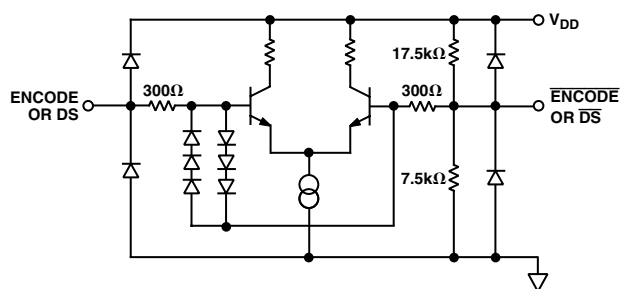

Figure 5. Equivalent ENCODE and Data Select Input Circuit
¹Gain error and gain temperature coefficient are based on the ADC only (with a fixed 2.5 V external reference).²3 dB bandwidth with full-power input signal.³t_V and t_{PD} are measured from the threshold crossing of the ENCODE input to valid TTL levels of the digital outputs. The output ac load during test is 5 pF (Refer to equivalent circuits Figures 5 and 6).⁴I_{IH} and I_{IL} are valid for differential input voltages of less than 1.5 V. At higher differential voltages, the input current will increase to a maximum of 1.5 mA.⁵Power dissipation is measured under the following conditions: analog input is -1 dBFS at 19.7 MHz.⁶Typical thermal impedance for the ST-44 (LQFP) 44-lead package (in still air): $\theta_{JC} = 20^{\circ}\text{C/W}$, $\theta_{CA} = 35^{\circ}\text{C/W}$, $\theta_{JA} = 55^{\circ}\text{C/W}$.⁷A change in input offset voltage with respect to a change in V_{DD}.⁸SNR/harmonics based on an analog input voltage of -1.0 dBFS referenced to a 1.024 V full-scale input range.
ENCODE and Data Select (DS) can be driven differentially or single-ended. For single-ended operation, the complement inputs ($\overline{\text{ENCODE}}$, $\overline{\text{DS}}$) are internally biased to $V_{DD}/3$ (~1.5 V) by a high impedance on-chip resistor divider (Figure 5), but they may be externally driven to establish an alternate threshold if desired. A 0.1 μF decoupling capacitor to ground is sufficient to maintain a threshold appropriate for TTL or CMOS logic.
Note the 6-diode clock input protection circuitry in Figure 5. This limits the differential input voltage to $\sim \pm 2.1$ V. When the diodes turn on, current is limited by the 300 Ω series resistor. Exceeding 2.1 V across the differential inputs will have no impact on the performance of the converter, but be aware of the clock signal distortion that may be produced by the nonlinear impedance at the converter.